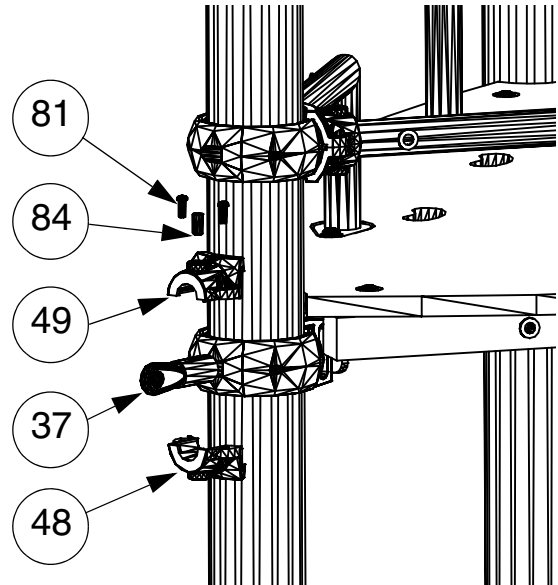

FIG.47
- 52) Attach in 2 places 1 off Climb Rope Tether (item 37) to the Clamp Rings (half) that are 900mm Deck Clamp Height and 300mm Deck Clamp Height on Straight Leg - 900 Deck (item 2). Each Climb Rope Tether is held between a Bar Socket Top (item 49) and a Bar Socket Bottom (item 48) using 2 off BHCS Fixings (item 81) and should be orientated correctly to the leg. See FIG.47, 48 & FIG.C.